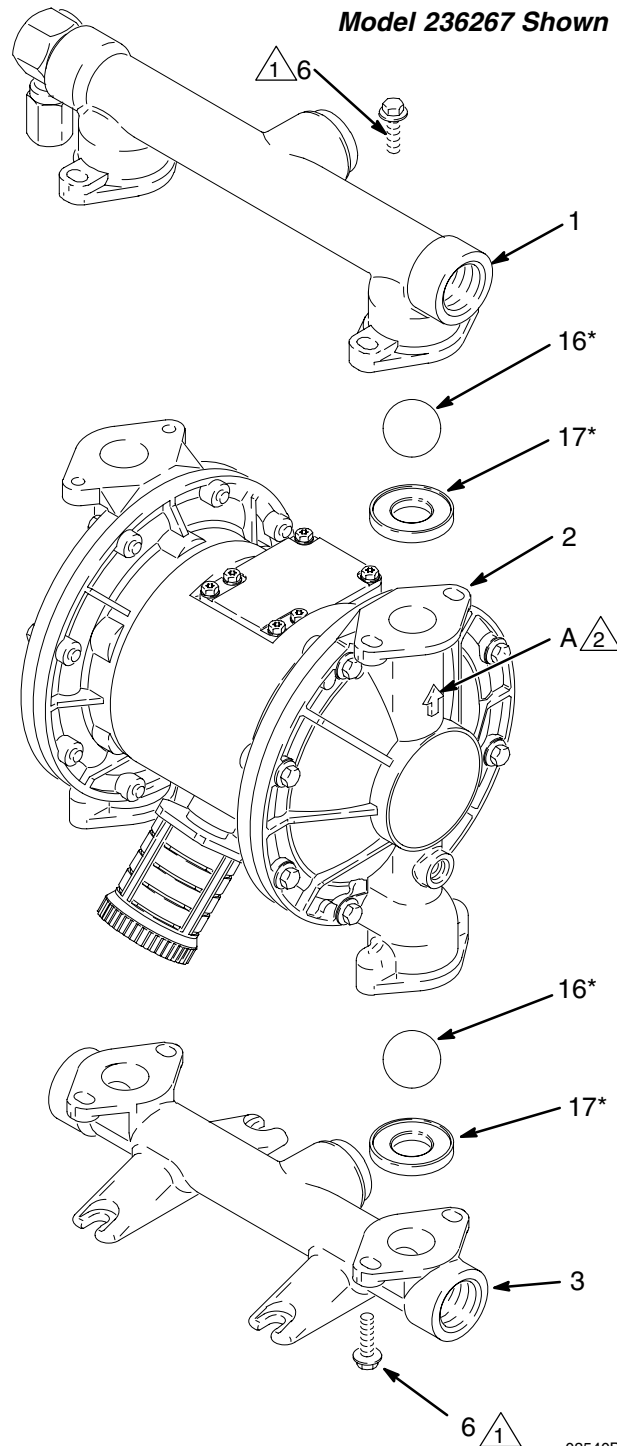

Fig. 12
3. Using a 10 mm socket wrench, remove the four bolts (6) holding the outlet manifold (1) to the fluid covers (2). See Fig. 12.
4. Remove the seats (17) and balls (16) from the manifold.
5. Turn the pump over and remove the inlet manifold (3). Remove the seats (17) and balls (16) from the fluid covers (2).
2. Reassemble in the reverse order, following all notes in Fig. 12. Be sure the ball checks are assembled **exactly** as shown. The arrows (A) on the fluid covers (2) **must** point toward the outlet manifold (1).